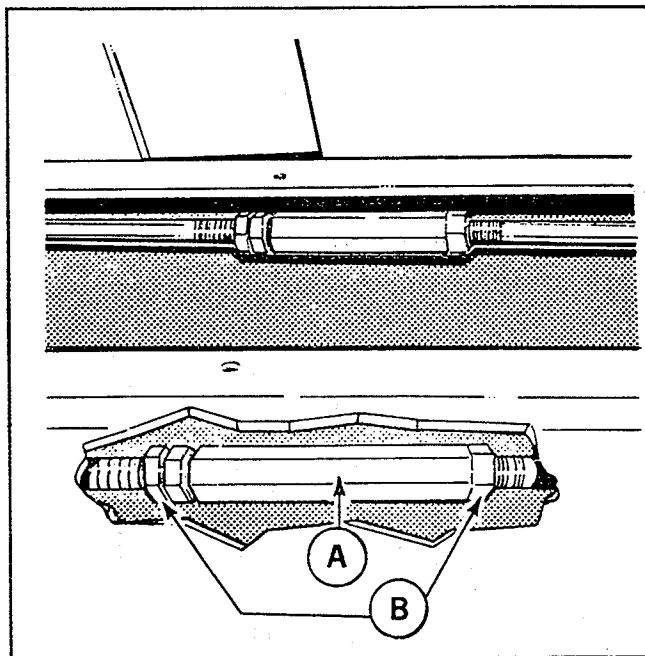

Figure 16. Brake adjustment turnbuckles.
3. See figure 16. Adjust the left brake first. You will need two open end wrenches. Use one wrench to hold the turnbuckle (A), the other to loosen the lock nuts (B) at either end of the turnbuckle. Turn the turnbuckle counter-clockwise (as you stand behind it looking toward the front of the tractor) to tighten the brake. Alternately turn the turnbuckle and check the brake travel until the brake travel as measured in figure 15 is 1-1/4 inches. While holding the turnbuckle (A) with one wrench, tighten the two nuts (B) at either end of the turnbuckle against the turnbuckle to lock it in place.